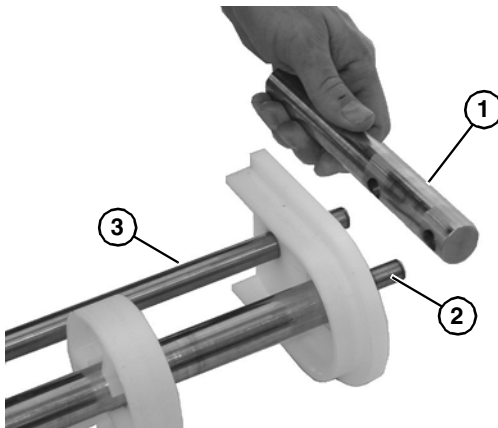

Figure 61
2. Remove the bearing end rod (**Figure 61, item 1**) from idler shaft (**Figure 61, item 2**) and pinch guard shaft (**Figure 61, item 3**).